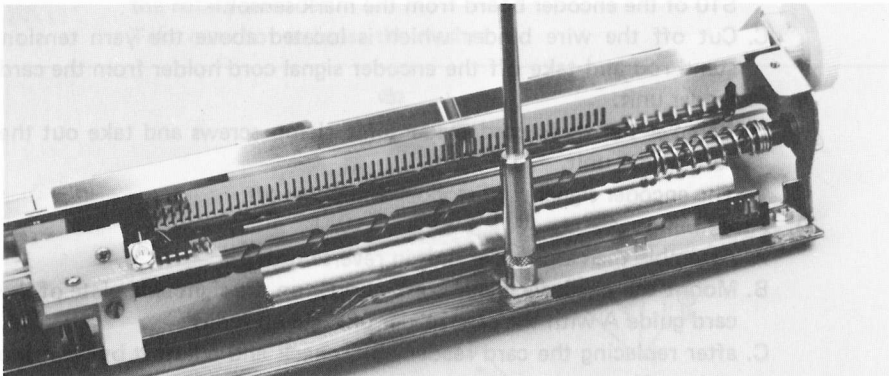

Fig. 93
D. Remove the nut of the mark sensor flexible cable. (Fig. 93)